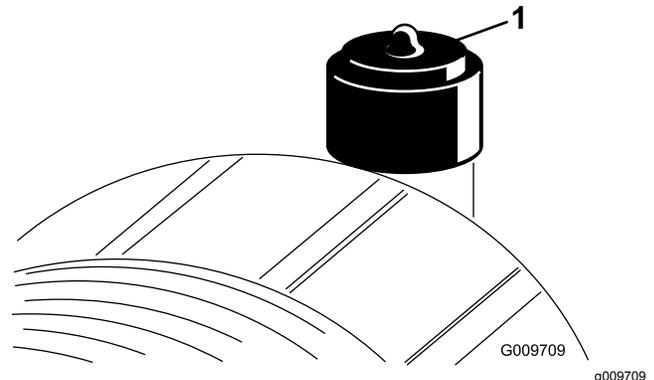

Figure 49
Service the air-cleaner filter only when the service indicator (Figure 49) requires it. Changing the air filter before it is necessary increases the chance of dirt entering the engine when you remove the filter.
2. Reset the indicator (Figure 49) if it shows red.